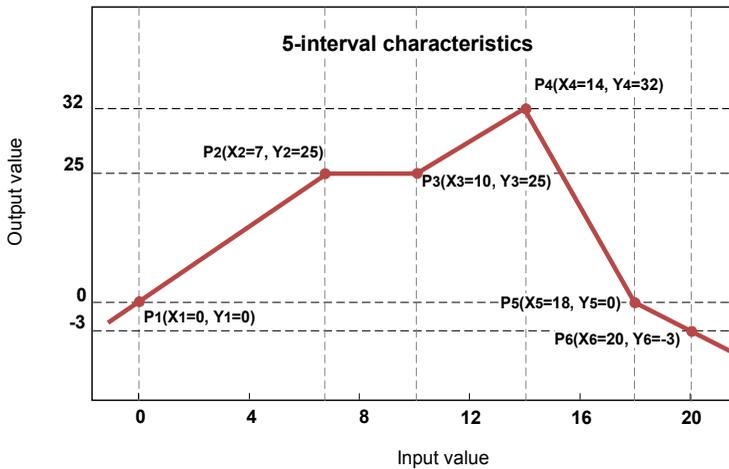

Fig. 7.35. Example of user characteristic
- d) **user char.** - is defined as a set of X-Y points. The number of the points is variable and may be set from 2 to 20 points which create linear segments (see **Fig. 7.35**). After choosing this option, the following parameter appears:
,where '**slope**' and '**offset**' are the coefficients of a segment contained between two points (see **Fig. 7.35**), and **n = 1, 2 ..** is the number of the segment.
The steps to create a user characteristic consisting of 6 points (like in Fig. 7.35):